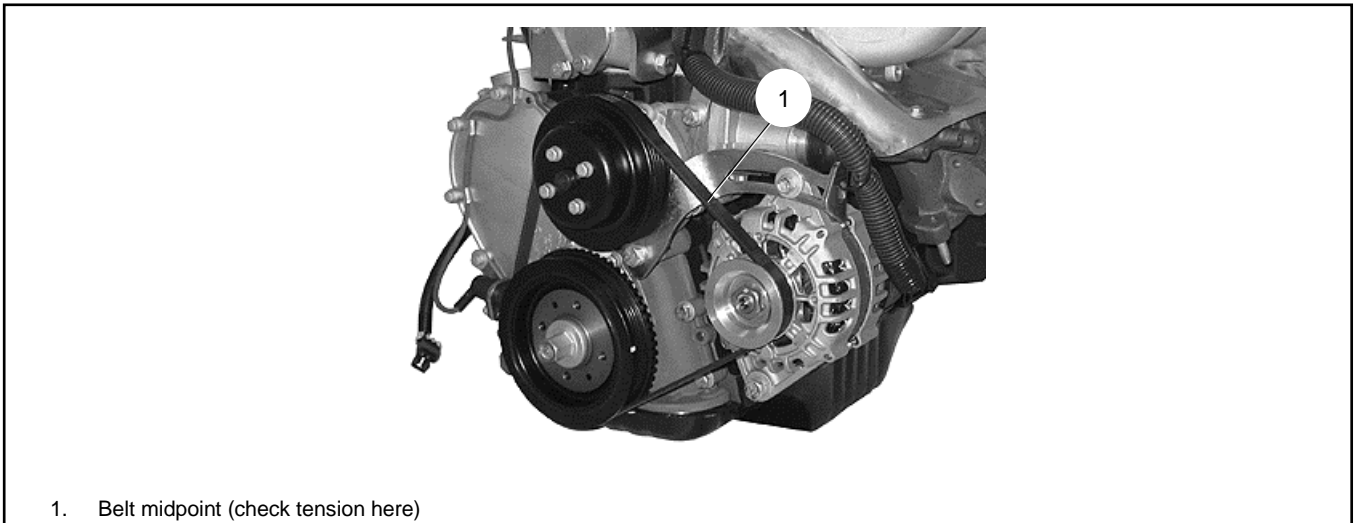

Figure 37 Drive Belt Location
1. The drive belt tension should be checked at the midpoint between the pulleys. See Figure 37.